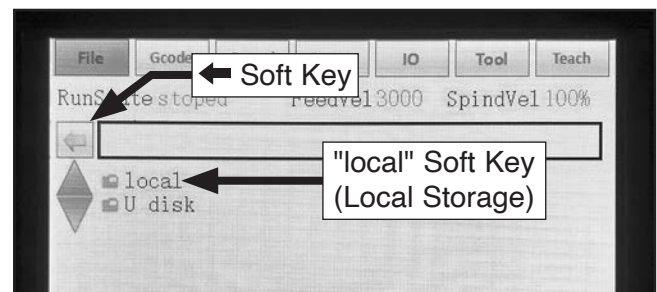

Figure 89. Example of controller File screen.
7. Navigate to soft key and press "Enter" until you return to file screen (see **Figure 89**).
8. Navigate to "local" soft key (see **Figure 89**) and press "Enter" button, then navigate to "Open" soft key and press "Enter" button to enter local storage.